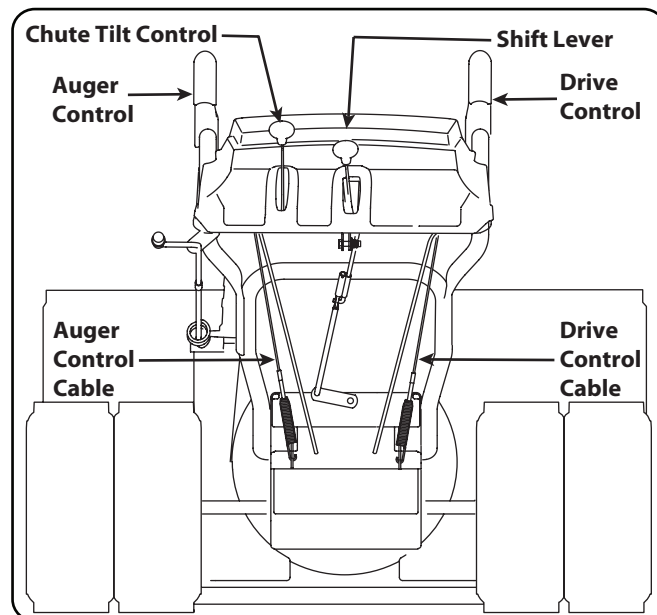

Figure 3-8
When the auger control is released and in the disengaged "up" position, the cable should have very little slack. It should NOT be tight. Refer to Figure 3-8.
1. With the engine turned off, move the shift lever into sixth (6) position. Refer to Figure 3-8.